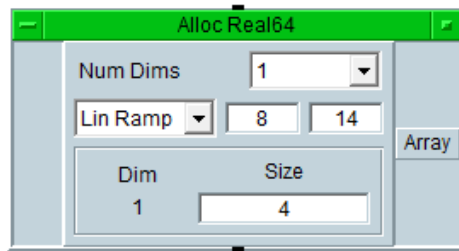

Fig. 32. Real64 Allocate Array object
- Select **Lin Ramp** array from **8** to **14** with size **4** in **Alloc Real64** object as shown in Fig. 32. This object will create the linear ramp array [8 10 12 14].